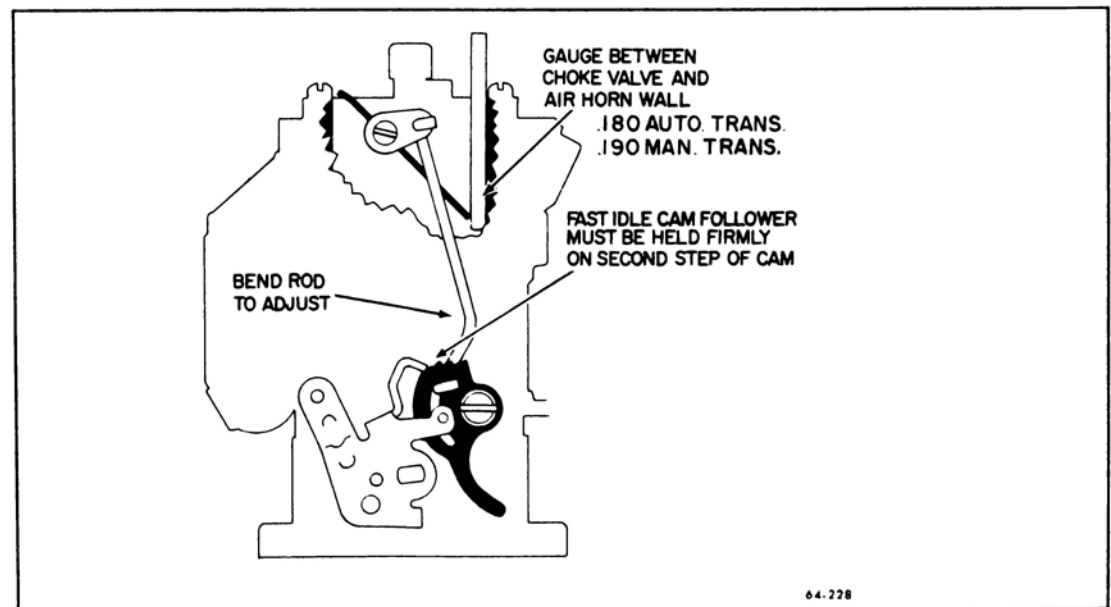

Figure 64-59—Choke Rod Adjustment
1. Place fast idle cam follower on second highest step of fast idle cam and hold firmly against rise to high step. See Figure 64-59.